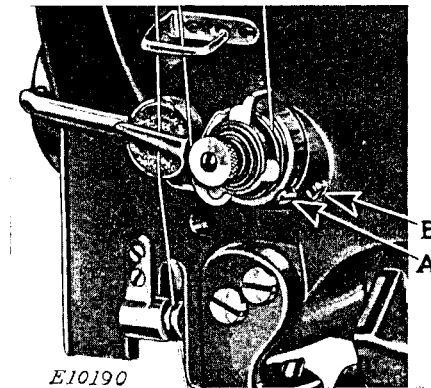

Fig. 23. Adjustments on Thread Controller
For more controller action on the thread, loosen the stop screw (A, Fig. 23) at the right of the tension and set the stop lower, and for less action set the stop higher, then tighten the stop screw (A).
To strengthen the action of the controller spring on the thread, loosen the tension stud screw (B, Fig. 23) at the right of the stop screw and turn the tension stud slightly to the left with a screwdriver, or to lighten its action turn to the right and tighten the tension stud screw (B).